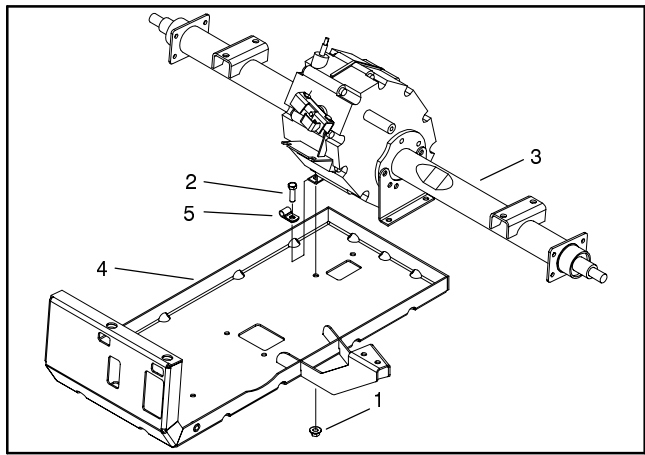

Figure 20
10. Remove four flange lock nuts and hex head flange screws securing the transaxle to the engine mount (Fig. 20).
3. Secure transaxle to the engine mount with four hex head flange screws and flange lock nuts. Make sure R-clamp with both shift cables is secured to the engine mount with screw (Fig. 20).